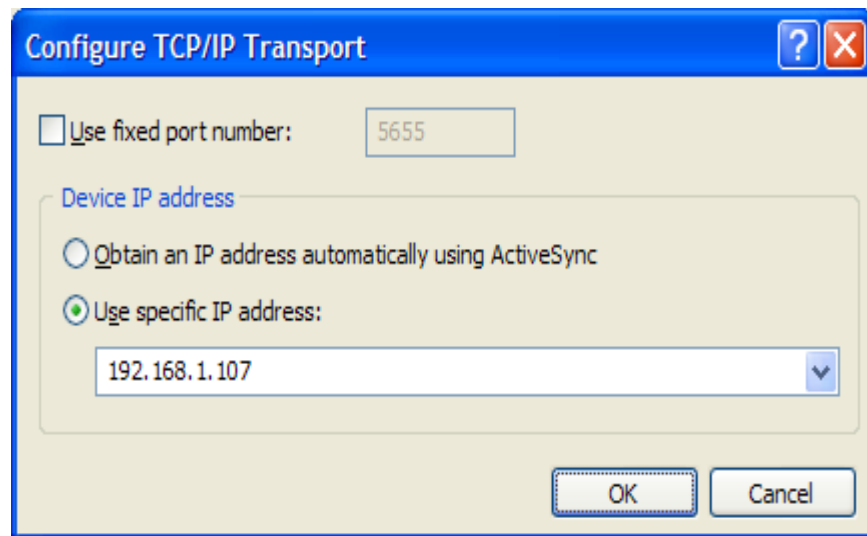

Figure 65. Configure TCP/IP Transport
6. Click on the Configure button to bring up Configure TCP/IP Transport as shown in figure 65.
7. Select Use specific IP address and enter eBox 2300's IP address as shown in figure 65.